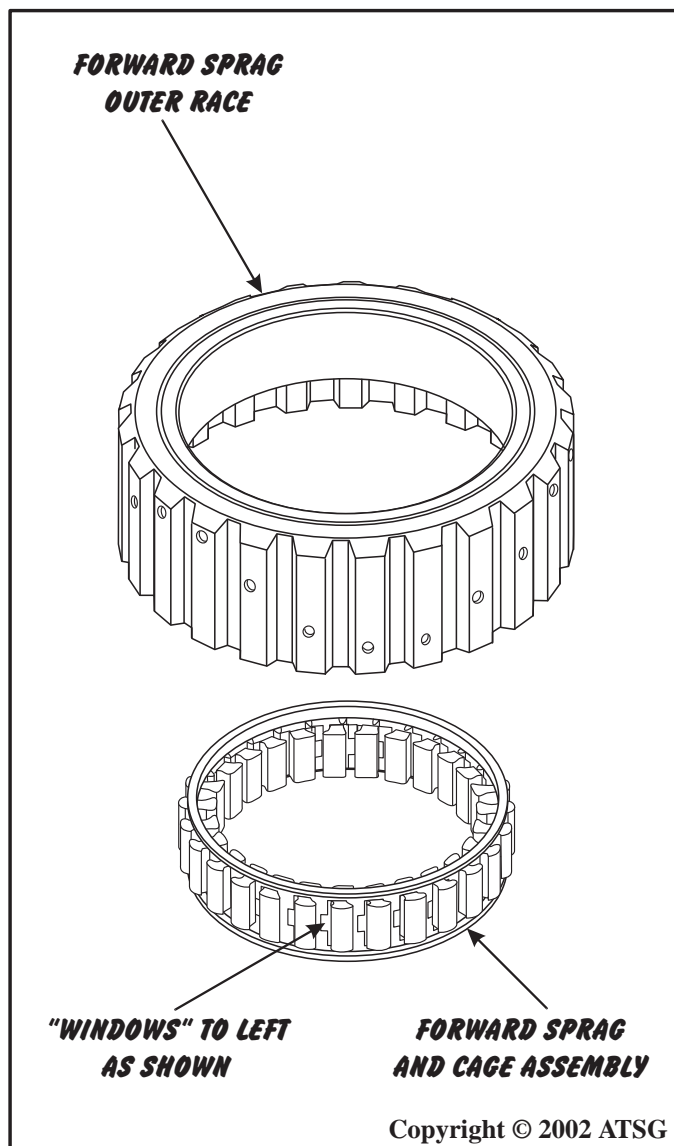

Figure 101
7. Install the forward sprag cage assembly into the outer race *exactly* as shown in Figure 101, with the "windows" to the left, and ensure that the outer race is arranged as shown. Refer to Figure 101.